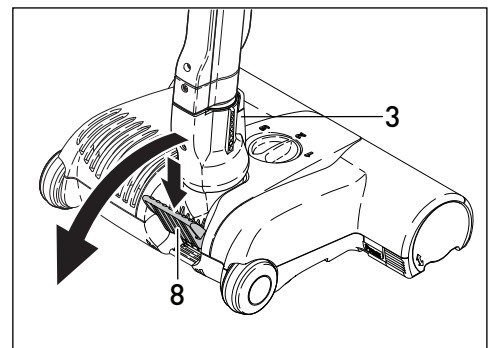

Figure 2
B. When the power head is switched on with the swivel neck (#3, figure 2) in the upright locked position, the brush roller will not spin and the green light will not illuminate. To release the power head from the upright locked position, press down on the foot pedal (#8, figure 2) and lower the swivel neck into the normal operating position. The brush roller will then start spinning and the green light on the power head will illuminate.
By pushing the foot pedal (#8, figure 2) and lowering the swivel neck, you activate the power head and the brush begins spinning. Failure to use the foot pedal will cause lasting damage to the machine. The electronic brush control constantly monitors the status of the brush, communicating the status through the lights on top.